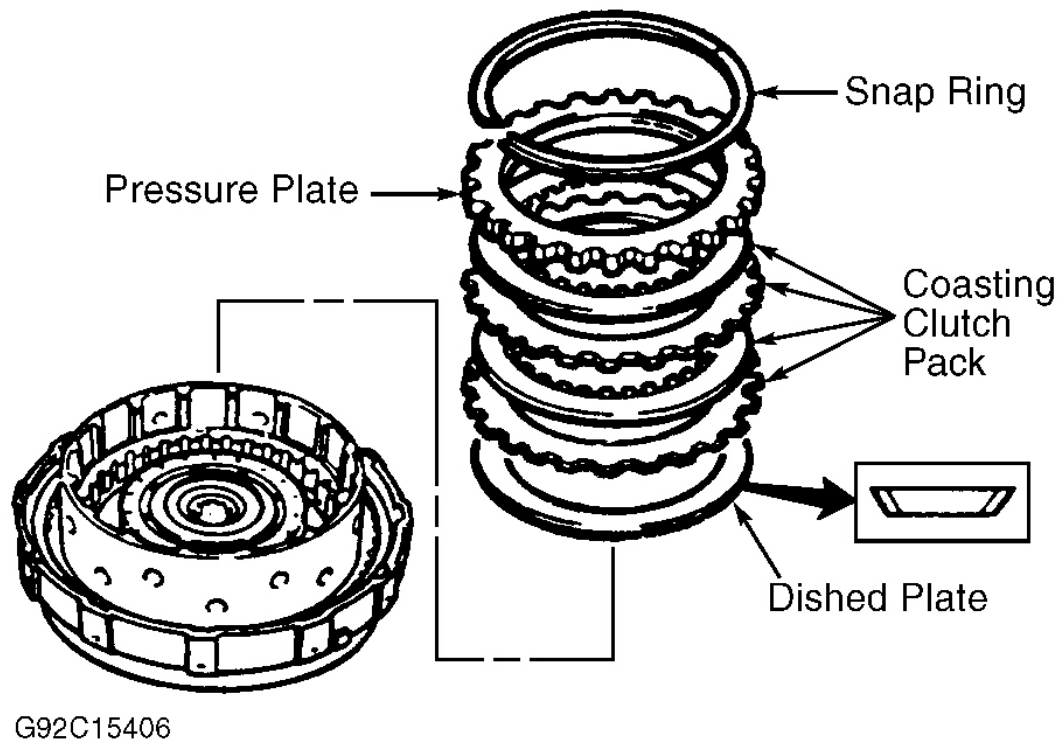

Fig. 12: Exploded View Of Coasting Clutch
Remove coasting clutch retaining ring, pressure plate, coasting clutch pack and dished plate. See **Fig. 12**. Install appropriate spring compressor, and compress return spring and retainer. Remove retaining ring. Remove spring compressor. Remove return spring and retainer. Remove coasting clutch drum from forward and reverse clutch drum assembly using compressed air. See **Fig. 10**.
3. Carefully remove spring compressor. Install dished plate with beveled side down. See **Fig. 12**. Install coasting clutch pack. Install pressure plate, and secure pack using retaining ring.